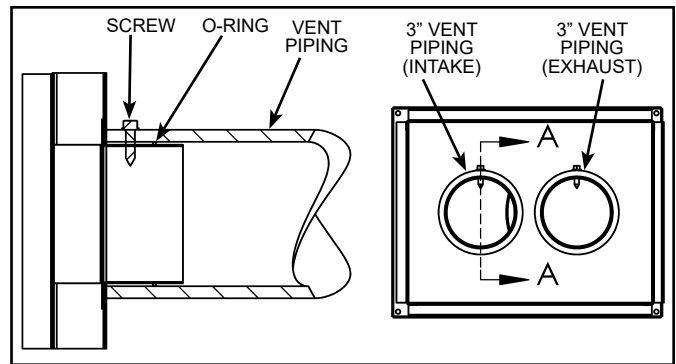

Figure 26.
2. Thoroughly inspect the vent termination for any damage (see Figure 26).
4. Drill  $7/64$ " pilot holes for a #8 screw (see Figure 26). Take care not to damage the O-ring.
5. Secure the vent piping to the air box with screws (see Figure 26).